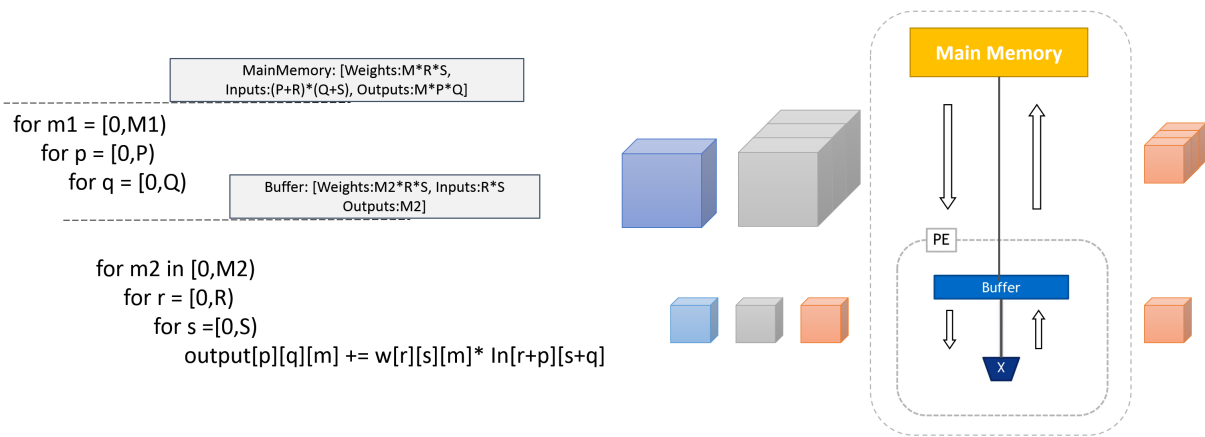
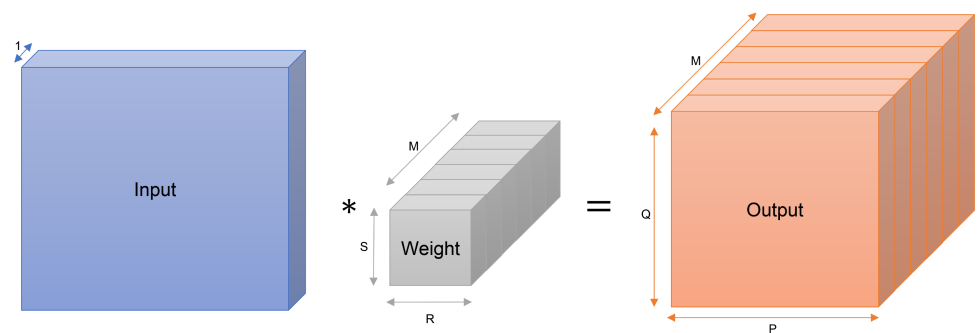

Figure 1: Dataflow
Figure 3: Problem
A dataflow mapping for the problem in Fig. 3 can be represented as a set of nested loops as in Fig. 1, which shows the tiled version of an output stationary (OS) mapping. The loop bounds ( $M_1, P, Q, M_2, R, S$ ) are parameters of the mapping (in Fig. 3, we have  $M_1 = M$  and  $M_2 = 1$ ). For the mapping to be valid, the parameters must be such that the data structures can fit in the corresponding level of the memory hierarchy, and also such that they correspond to the dimensions of the problem.
In the example of Fig. 1, the buffer can store an input block with size of  $1 \times R \times S$ , a weight block with size of  $M_2 \times R \times S$ , and an output block with size of  $M_2 \times 1 \times 1$ . In each cycle, the required blocks of the input, weight, and outputs that have to be transferred between main memory and buffer are shown. First, we check if they are already available in the buffer or not. If the blocks are not in the buffer, we have to read them from the main memory and store them in the buffer.